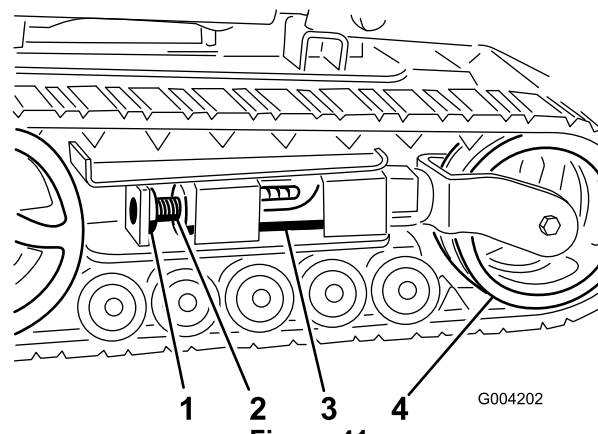
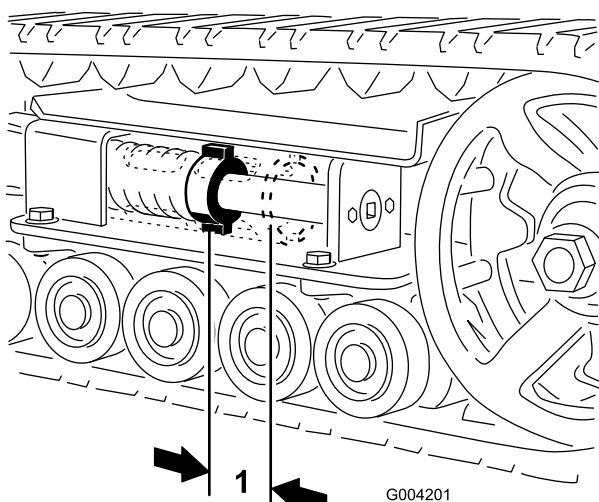
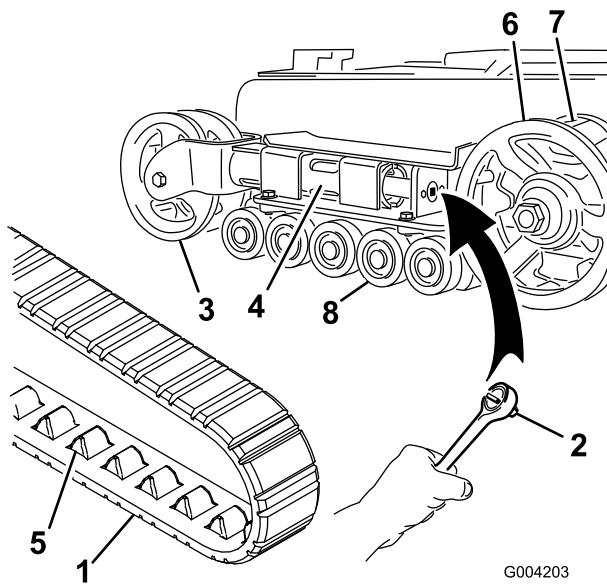
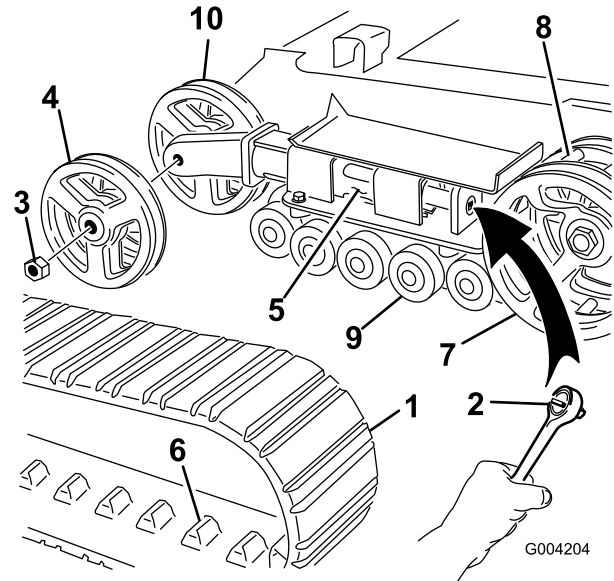

Figure 41
Figure 40
Figure 42
Figure 43
There should be 2-3/4 inches (7 cm) between the tension nut and the back of the tension tube (Figure 40). If not, adjust the track tension using the following procedure:
3. Remove the locking bolt and nut (Figure 41).
4. Using a 1/2 inch drive socket wrench (Figure 42), turn the tensioning screw counter-clockwise until the distance between the tension nut and the back of the tension tube (Figure 40) is 2-3/4 inches (7 cm).
5. Align the closest notch in the tension screw to the locking bolt hole and secure the screw with the locking bolt and nut (Figure 41).
4. Using a 1/2 inch drive socket wrench, release the drive tension by turning the tensioning screw clockwise (Figure 41 and Figure 42).
4. Using a 1/2 inch drive socket wrench, release the drive tension by turning the tensioning screw clockwise (Figure 41 and Figure 43).
5. Push the tension wheel toward the rear of the unit to move the tension tube against the frame (Figure 42). (If it does not touch the frame, continue turning the tensioning screw until it does.)
7. When the track is off of the tension wheel, remove it from the drive sprocket and road wheels (Figure 42).
8. Beginning at the drive sprocket, coil the new track around the sprocket, ensuring that the lugs on the track fit between the cogs on the sprocket (Figure 42).
9. Push the track under and between the road wheels (Figure 42).
11. Turn the tensioning screw counter-clockwise until the distance between the tension nut and the back of the tension tube (Figure 40) is 2-3/4 inches (7 cm).
5. Push the tension wheel toward the rear of the unit to move the tension tube against the frame (Figure 43). (If it does not touch the frame, continue turning the tensioning screw until it does.)
6. Remove the nut securing the outer tension wheel and remove the wheel (Figure 43).
7. Remove the track (Figure 43).
8. Remove the nut securing the inner tension wheel and remove the wheel (Figure 43).
12. Install the inner tension wheel and secure it with the nut removed previously (Figure 43).
14. Install the new track, ensuring that the lugs in the track fit between the cogs in the middle of the drive sprocket (Figure 43).
15. Install the outer tension wheel and secure it with the nut removed previously (Figure 43).
17. Turn the tensioning screw counter-clockwise until the distance between the tension nut and the back of the tension tube (Figure 40) is 2-3/4 inches (7 cm).